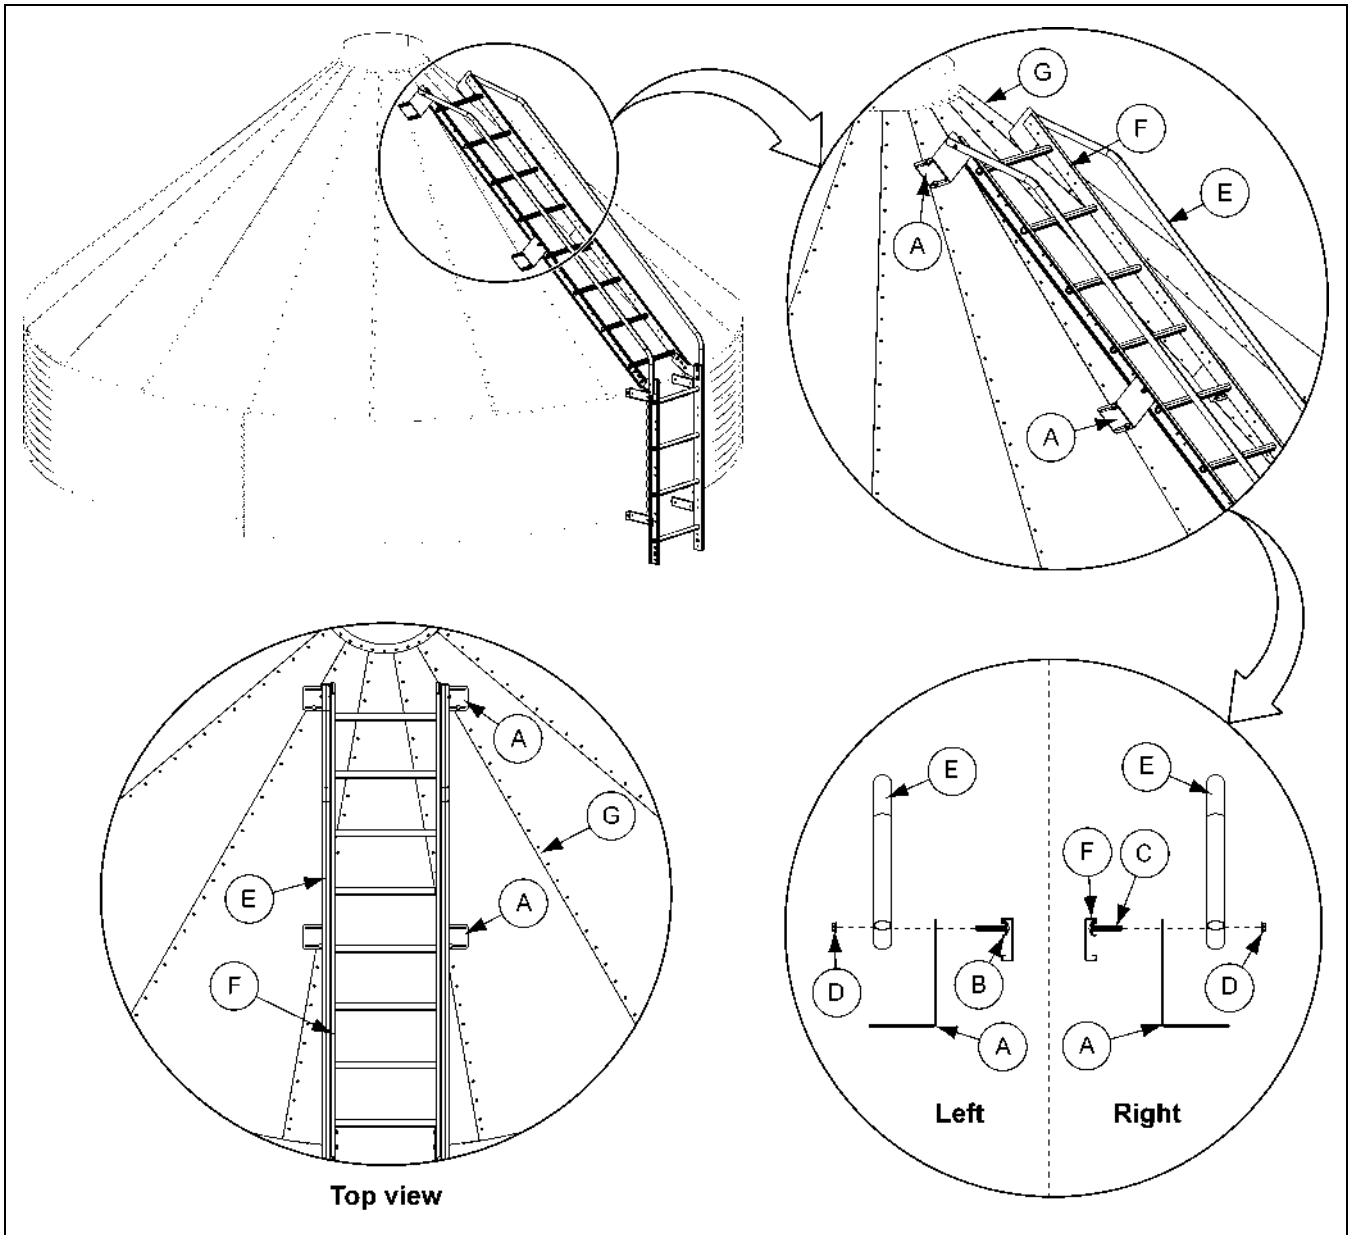

Figure 8D 15' Tank
3. **15'**: The support brackets (A) at the top and middle of the ladder are bend out away from the center of the roof ladder (F). (See Figure 8D on Page 42.)
4. Slide the wedge (B) and the support brackets (A) along the roof ladder rail (F) until the slots in the support brackets (A) match with the pre-punched holes in the roof panel (G) and attach using the existing roof panel bolts.
5. Secure the roof ladder rail (F), support brackets (A), wedge (B) and the handrail (E) using 5/16" bolts (C) and 5/16" flange nuts (D).